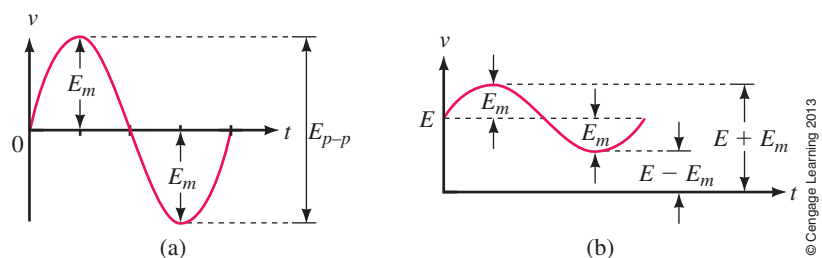

FIGURE 15–19 Definitions.
The **peak value** of a voltage or current is its maximum value with respect to zero. Consider Figure 15–19(b). Here, a sine wave rides on top of a dc value, yielding a peak that is the sum of the dc voltage and the ac waveform amplitude. For the case indicated, the peak voltage is $E + E_m$.
3. If the generator of Figure 15–6 rotates at 3000 rpm, what is the period and frequency of the resulting voltage? Sketch four cycles and scale the horizontal axis in units of time.